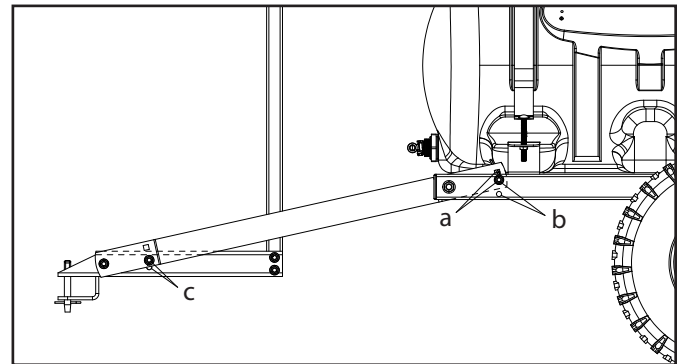

Figure 7: ATX-TR hitch adjustment
3. There are adjustment holes on the trailer hitch arms (a), the sprayer frame (b), and the hitch tube (c) (Figure 7). Use any combination of these holes to achieve the desired hitch position.